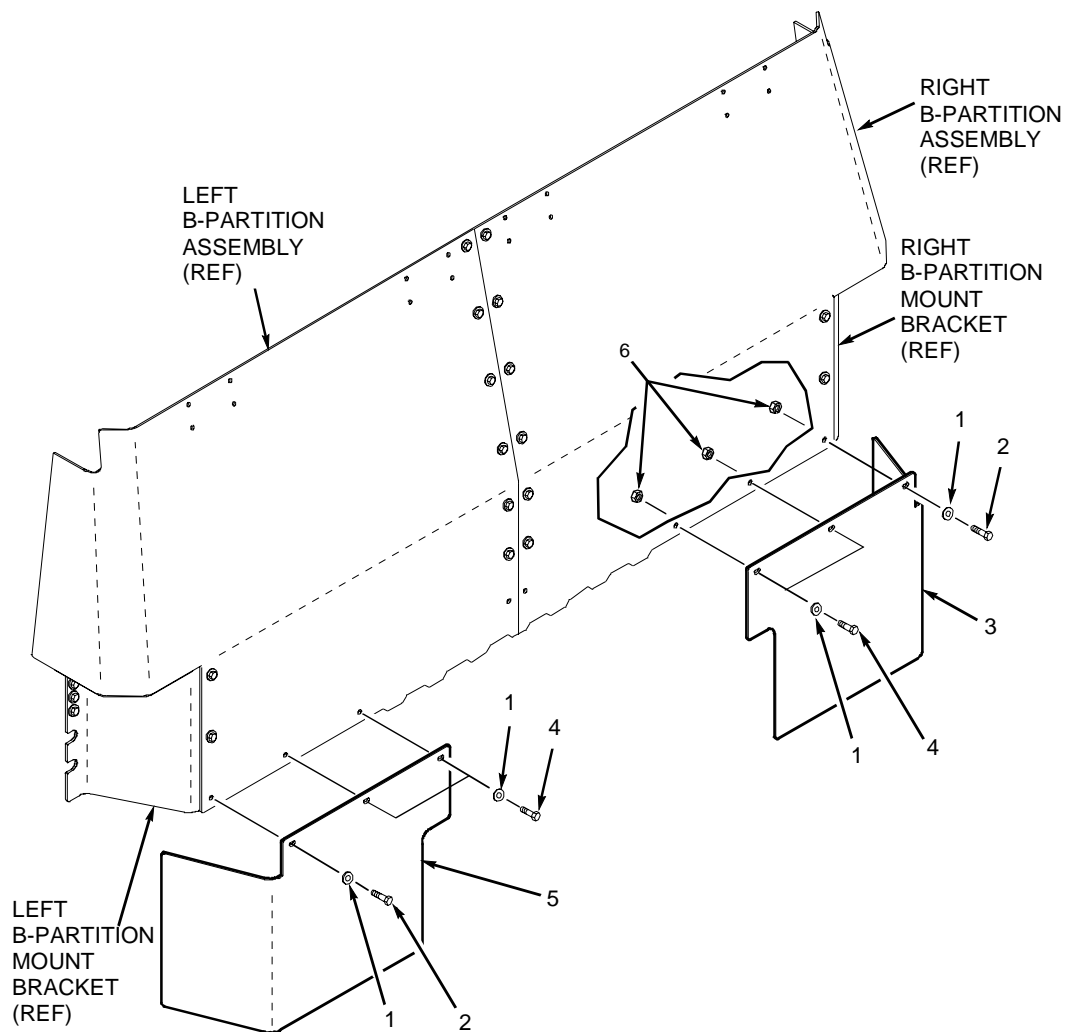

Figure 2-18. Lower B-Partition Removal (2 Door Only)
- 1) Remove lower B-partition panels as follows (see figure 2-18):
- a. Remove four capscrews (4), two capscrews (2), six washers (1) and six locking nuts (6) securing lower B-partitions (5 and 3) to left and right B-partition assemblies and B-partition mount brackets. Discard locking nuts (6). Remove lower B-partitions (5 and 3).